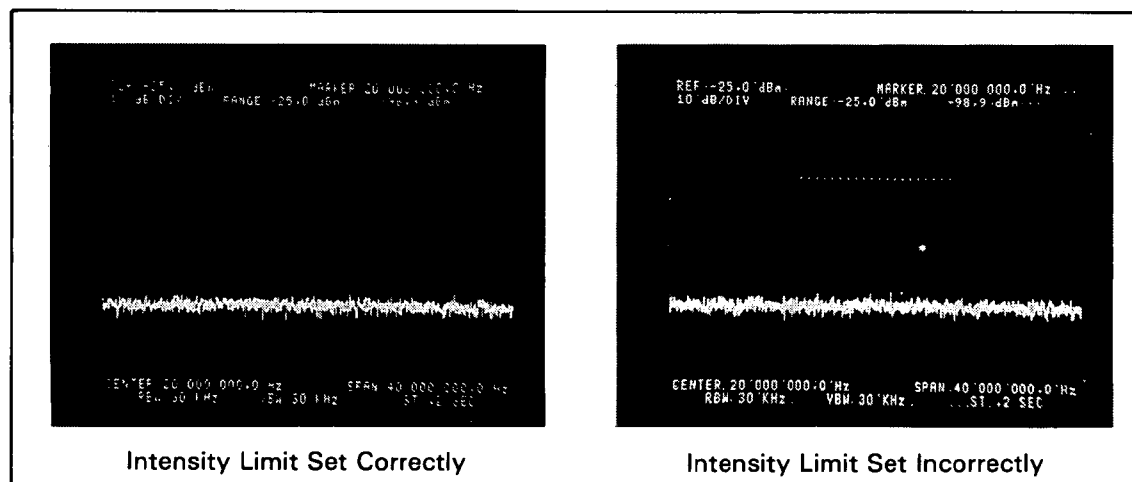

Figure 5-10. Location Of Extra CRT Dots
- aa. Adjust A67R6 so that there are no extra dots on the screen (see Figure 5-10). Move jumper A67J11 to the test position. Display the test pattern by pressing shift 612 and instrument preset.